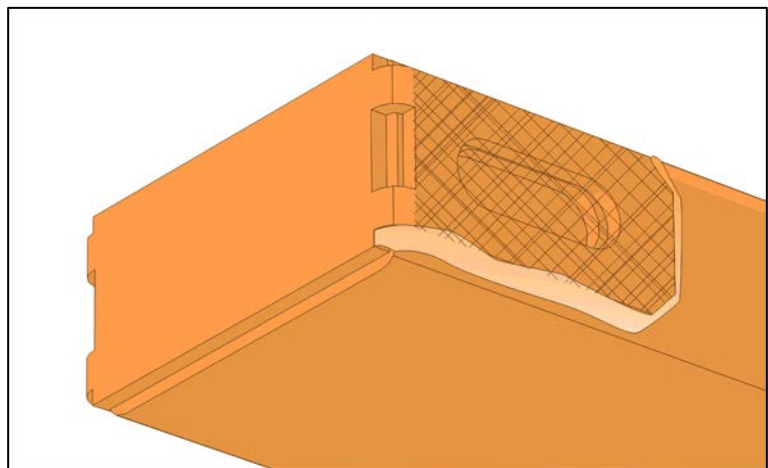

Figure 7: Cradle Tubing Mounting Surface
12. If you feel interference while inserting the shim, the contour weld on the cradle tubing may need to be lightly ground down in this location with a thin cutting wheel to have a flat surface for the shim. (Figure 7).